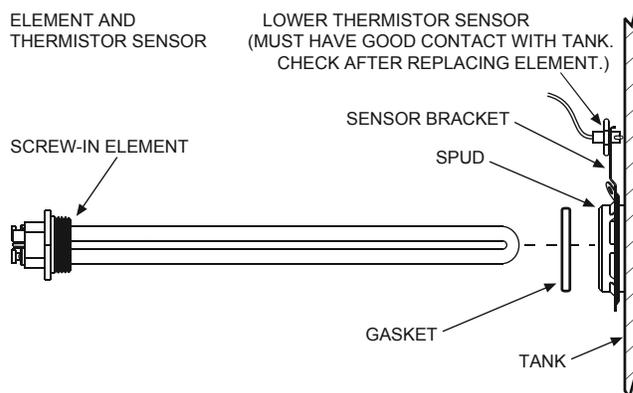

**FIGURE 19**
4. Disconnect the electric wires from the heating element. (See Figure 19.) Remove the screw-in element by turning the element counterclockwise with an SAE 1-1/2 inch socket wrench or use an element wrench. Remove the existing gasket.